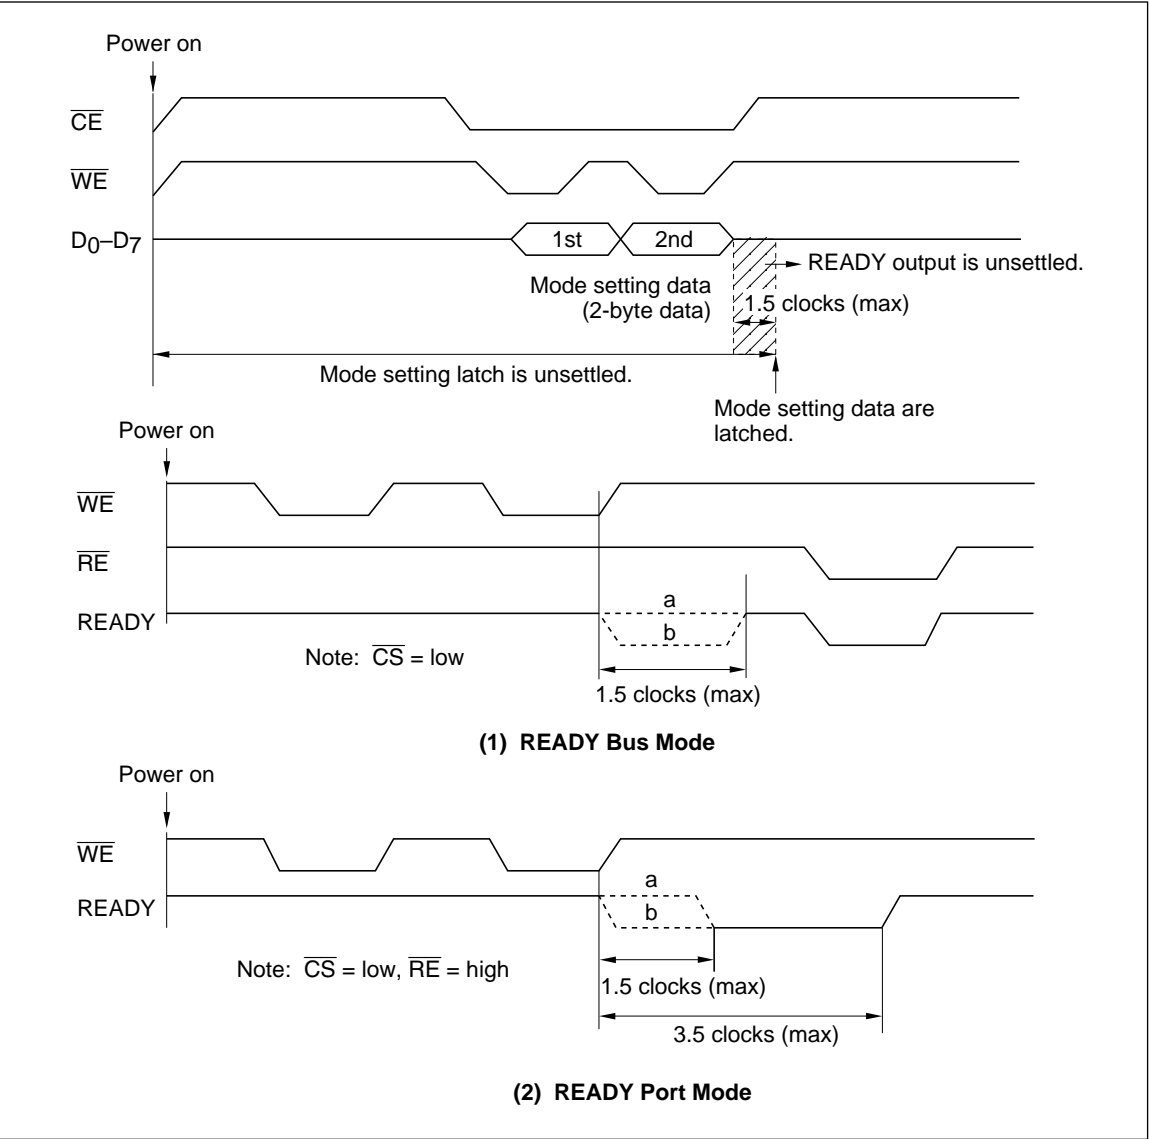

Figure 18 READY Output According to Modes
However, if you input SYNC before mode setting, waveform will be determined; when you choose READY bus mode, (1) a in figure 18 will be output, and when you choose READY port mode, (2) a will be output. The figures can be applied both to HD61602 and HD61603.